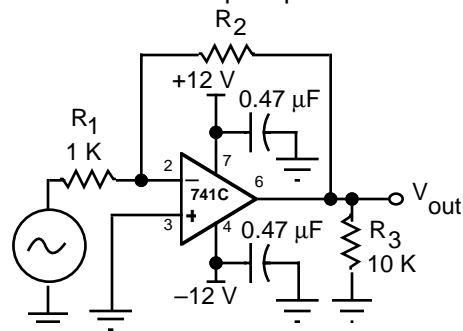

Fig 8.5
d) *Slew Rate.* Connect the circuit of Fig 8.5 choosing R_2 between 100 kΩ and 1 MΩ. Measure the slew rate of the 741C and LF411 op amps.